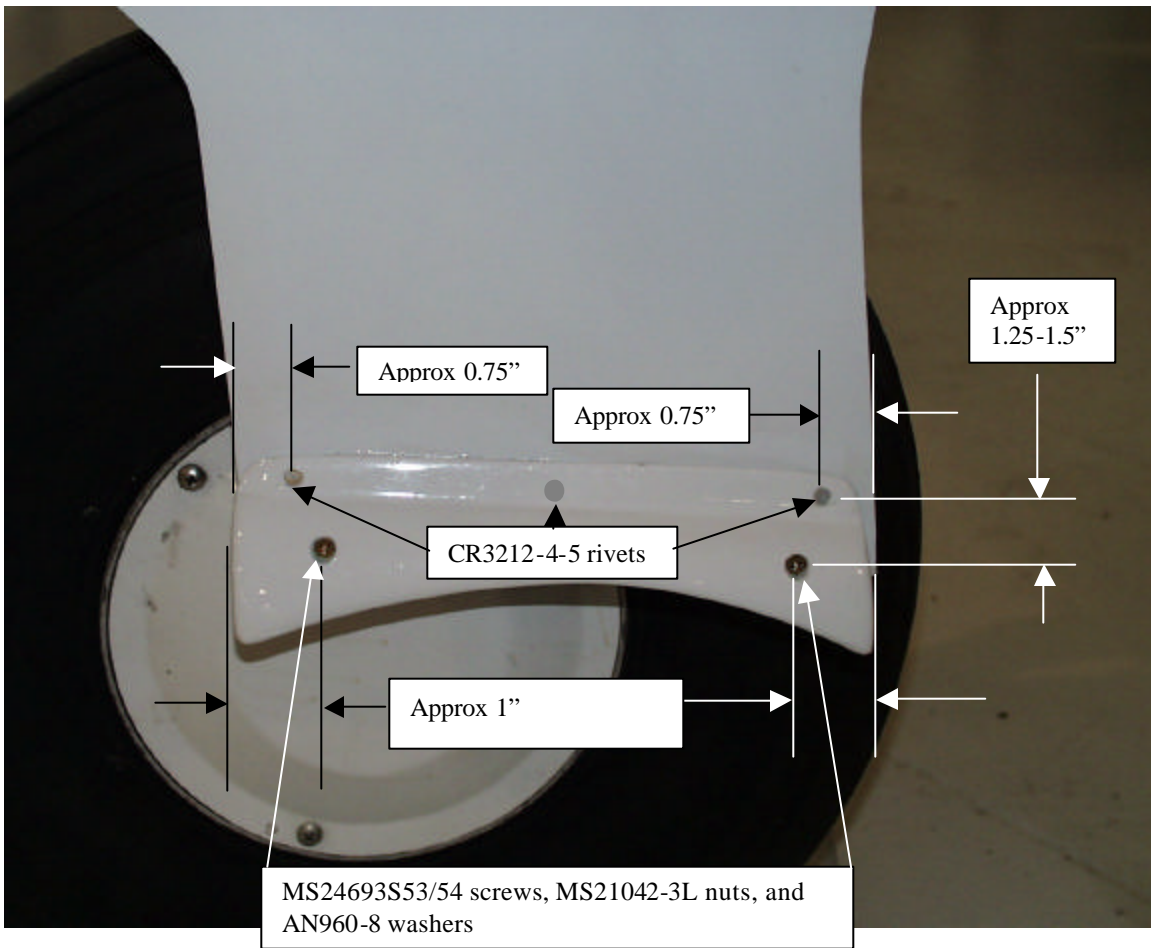

Figure 5. Gear Door Fairing
12. With the gear fairings in place and the gear retracted, locate the correct position for the gear door fairings on the gear door. Mark the correct position for the gear door fairings. With the gear extended carefully locate three rivet holes shown in Figure 5. Cleco the gear door fairings in place on the gear door. Carefully locate the two bottom attachment holes. **Be especially careful to keep the holes far enough inboard to prevent the bolt heads from hitting on the gear door seal when the gear is retracted.** Permanently install the gear door fairing on the gear door.